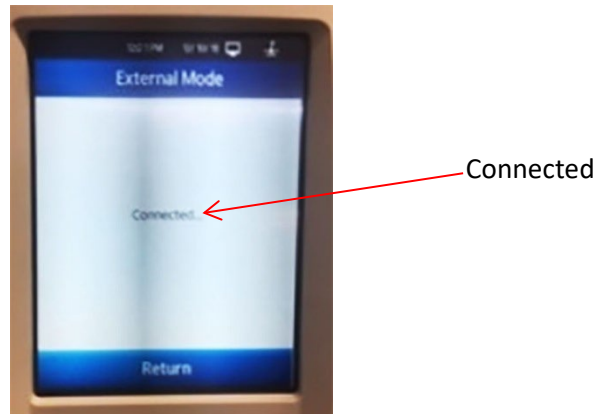

Figure 30: Connected Display
9. Connect the instrument by plugging in the serial cable to the PC. The Head Unit now displays **Connected**, as shown in Figure 30.